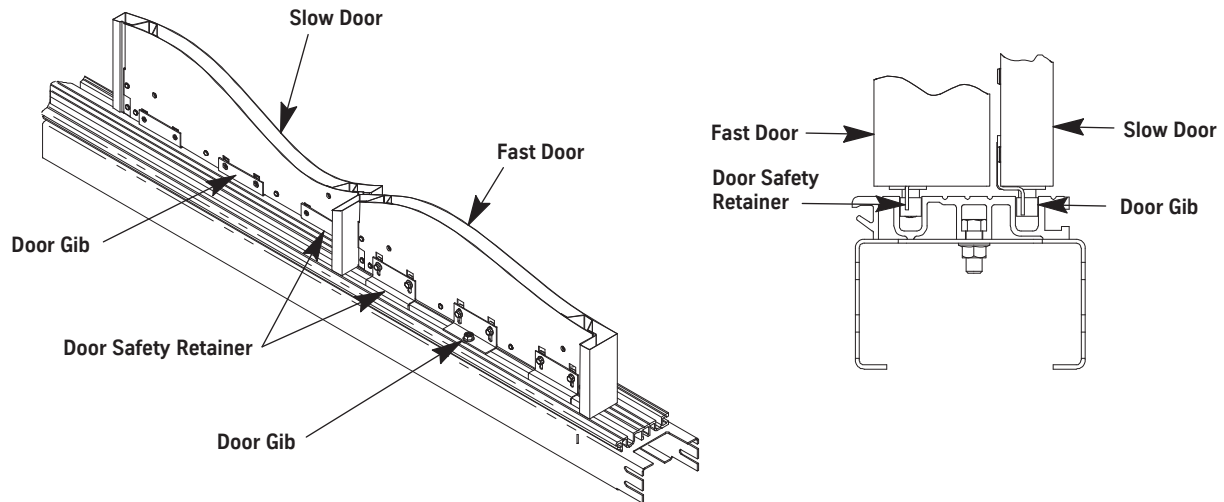

Figure 39 - Door Gibs and Safety Retainers
7. Install the door gibs and the door safety retainers. See Figure 39.